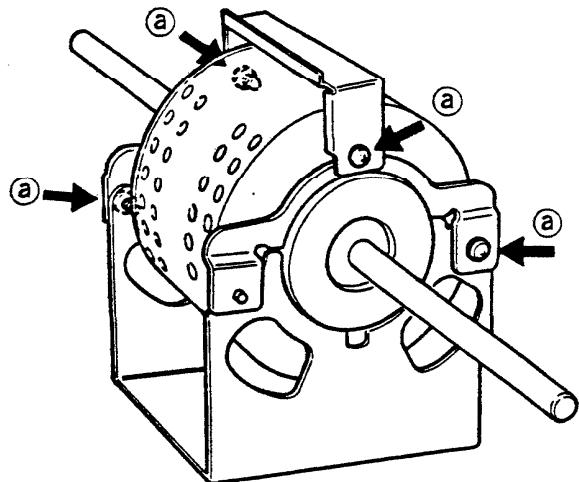

Fig. 13
8) Remove the four screws (a) fixing the motor. Fig. 13